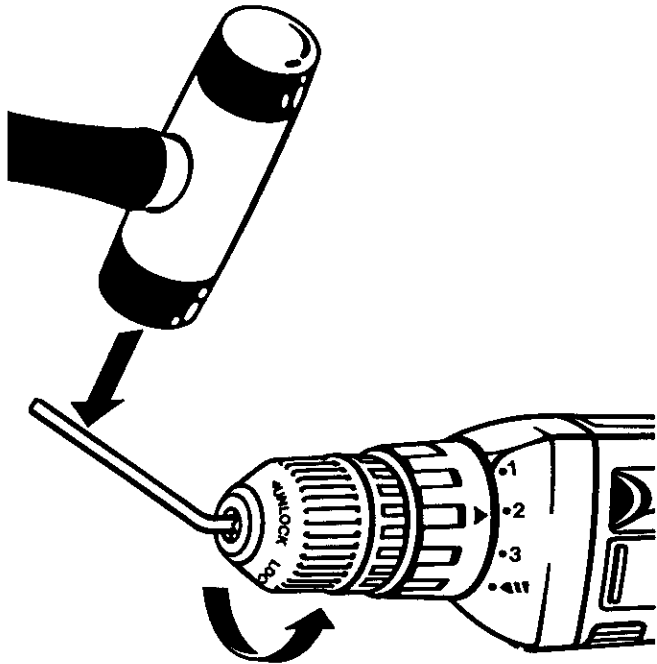

Fig. 14
- Insert allen wrench in chuck and tighten chuck jaws securely. Tap sharply with a mallet in a counterclockwise direction. This will loosen chuck on the spindle. It can now be unscrewed by hand. *See Figure 14.*